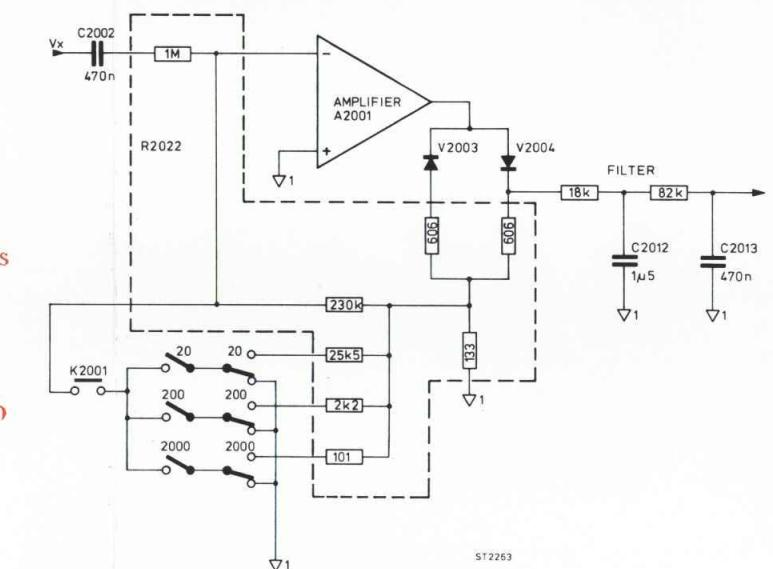

Fig. 17. AC-voltage measurements
**7.2.2. A.C. Voltage measurements (Fig. 17)**